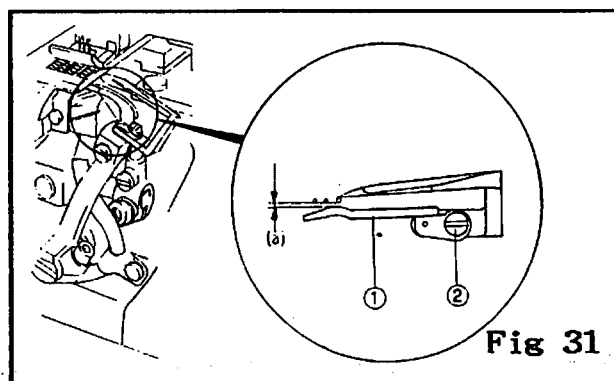

Fig 31
1. When the Looper goes from the right exact point to the left exact point, it passes behind the needles and the Front Needle Guard (1) is in front of the needles. (Fig 31)